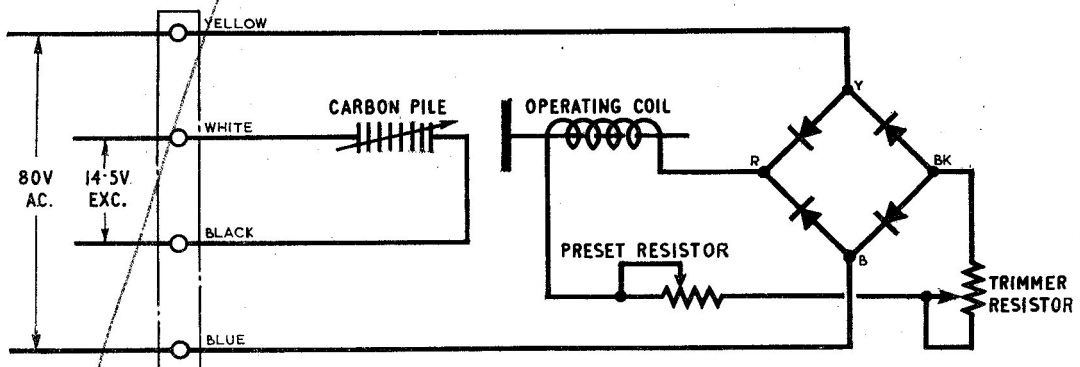

Fig. 1. Circuit diagram
1.5 in. A circuit diagram is given in fig. 1, and general information on this type of regulator will be found in A.P.4343, Vol. 1, Sect. 6, Chap. 2.